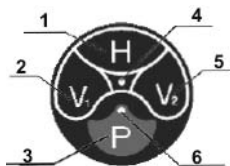

Fig. 3
2. Activate the horizontal line H, vertical lines V1 and V2, and plumb-down point by pressing the corresponding keys on the operating panel (Fig. 3).